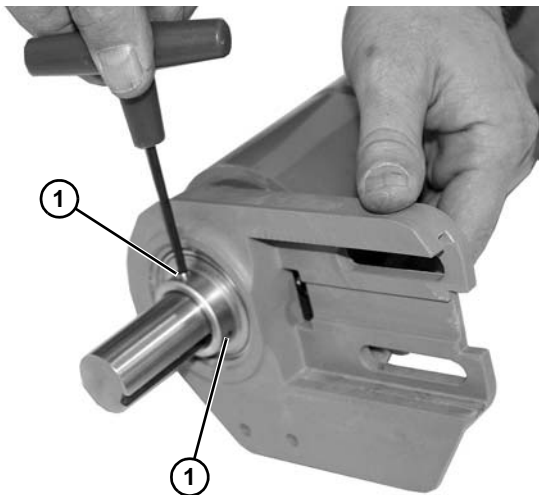

Figure 46
- Loosen two set screws (Figure 46, item 1).